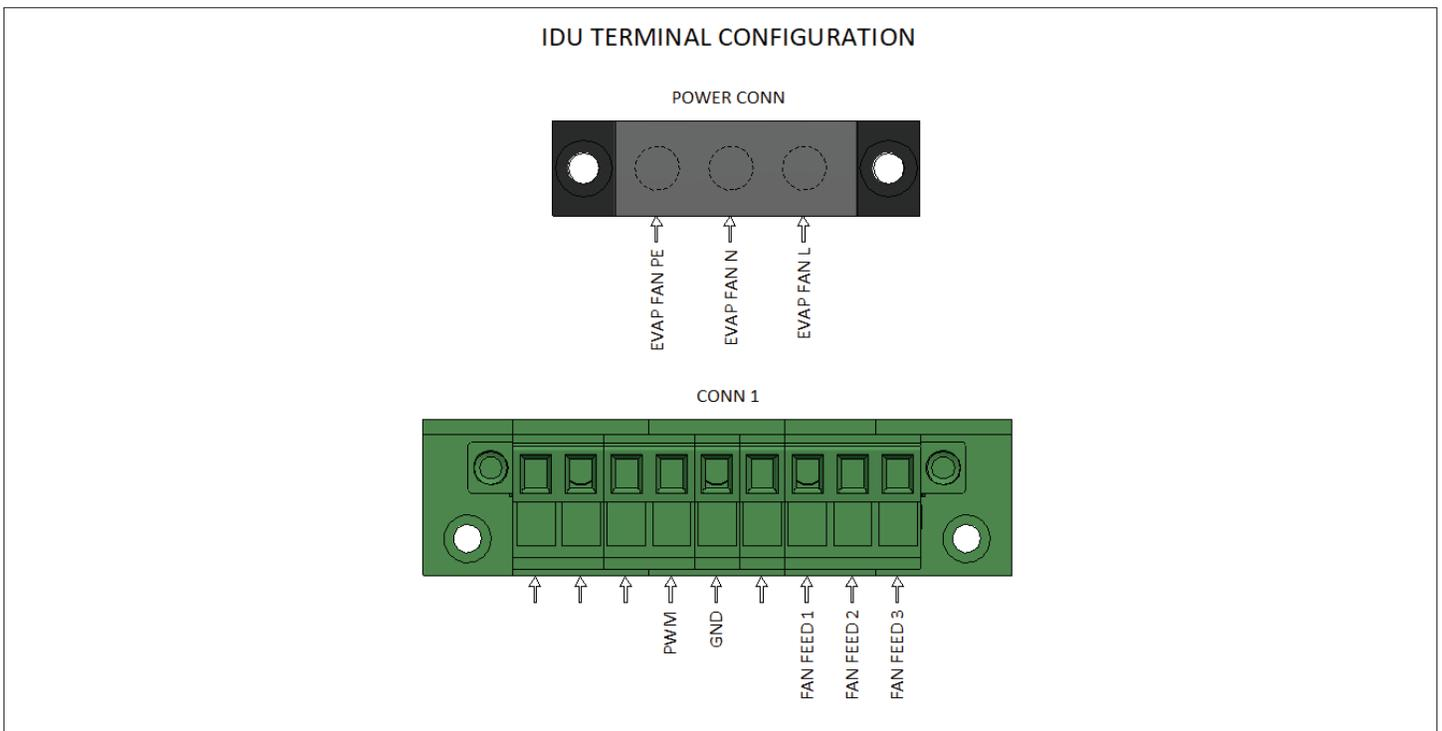

Figure 3-2 Control Field Connection Terminals for Single Phase
3. Route the power cable through the cover plate wire hole and connect it to the barrier terminal lock, refer Figure 3-2 for terminal connection.